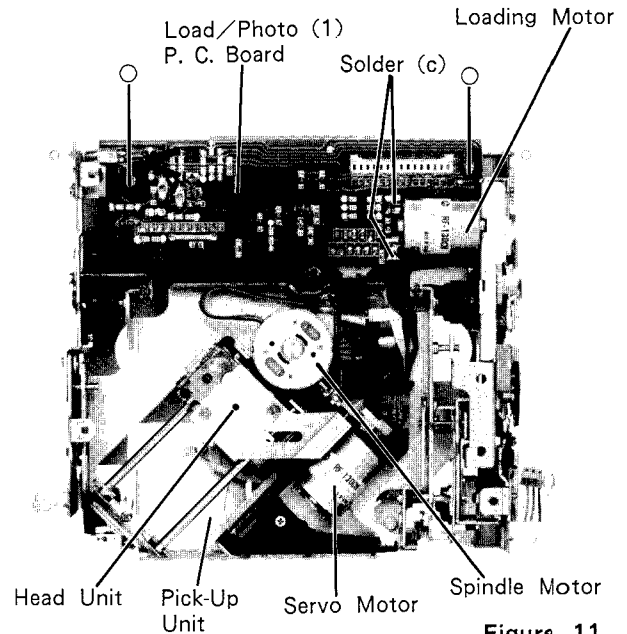

Figure 11
- (1) Remove three screws marked with "○" as shown in Figures 11 and 12.
- (2) Remove the solder (c) as shown in Figure 11.